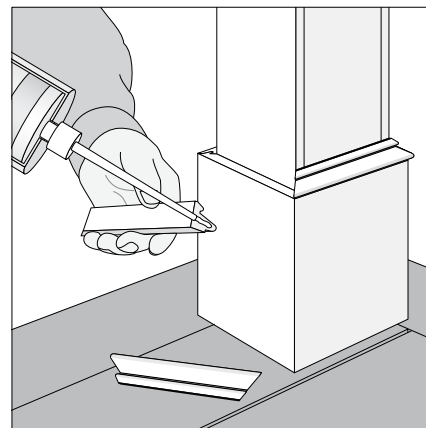

Fig. 7
- Apply a small amount of Kleer Cellular PVC Adhesive (4-7 or 20-25 Minute Work Time) to the mitered joints at the ends of two pieces of mouldings (**Fig. 7**).